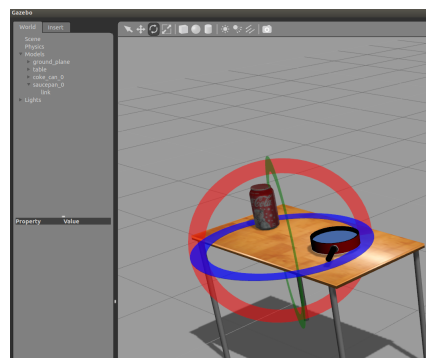

Figure 3.5: Rotating an object on the simulation.
- 5.- Press *R* on the keyboard and click on one of the objects to enable the orientation handle (see Fig. 3.5).